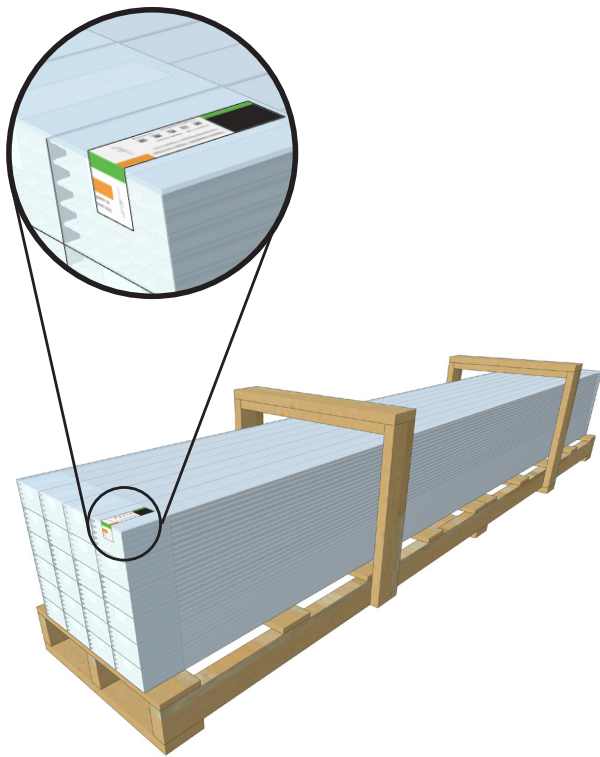

Figure 4.1
- Materials are delivered on pallets (see Figure 4.1). Pallet size may vary depending on order quantity and profile type. All products are individually packaged and labeled by profile type and finish.